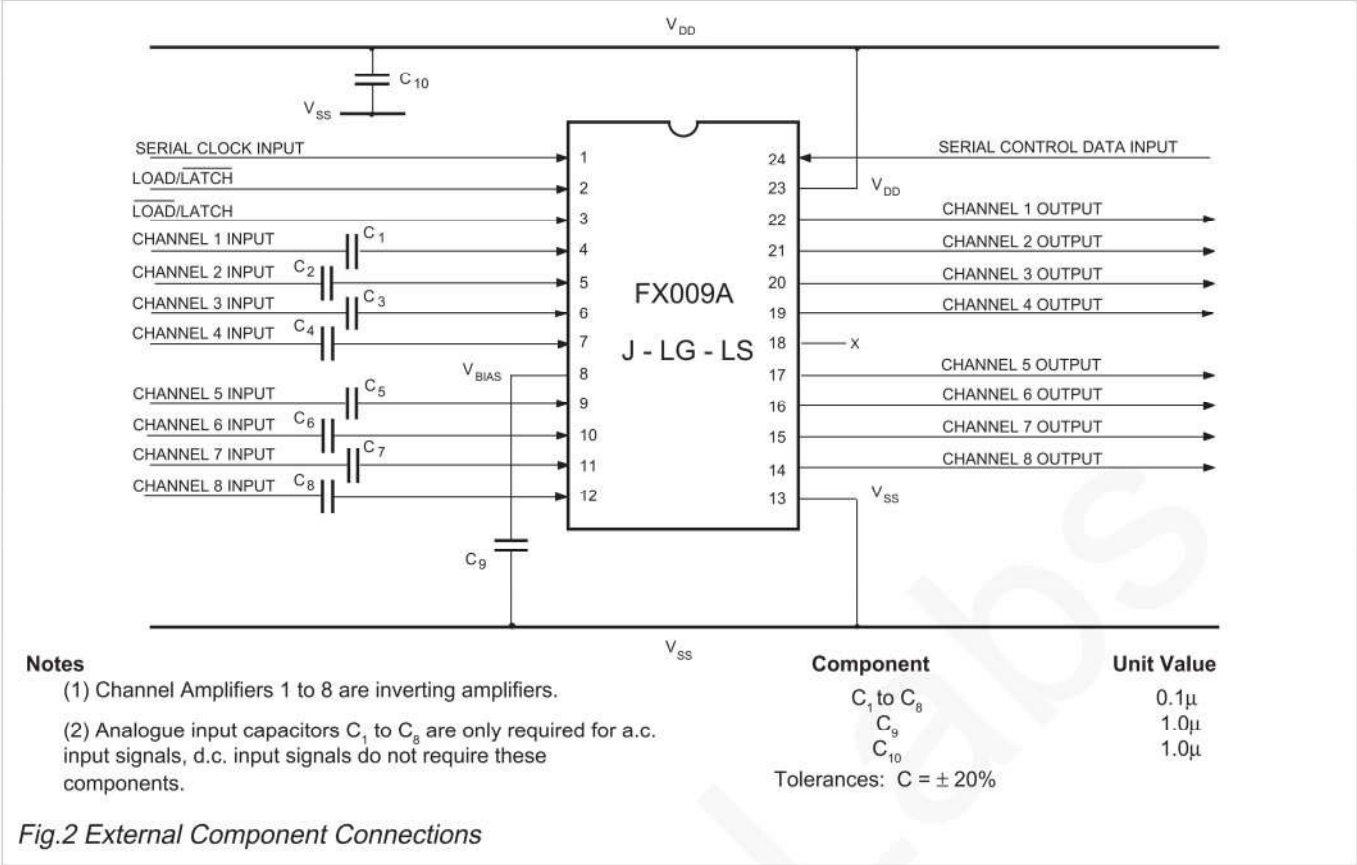

Fig.2 External Component Connections
- (c) All external components (Figure 2) should be kept close to the FX009A package.